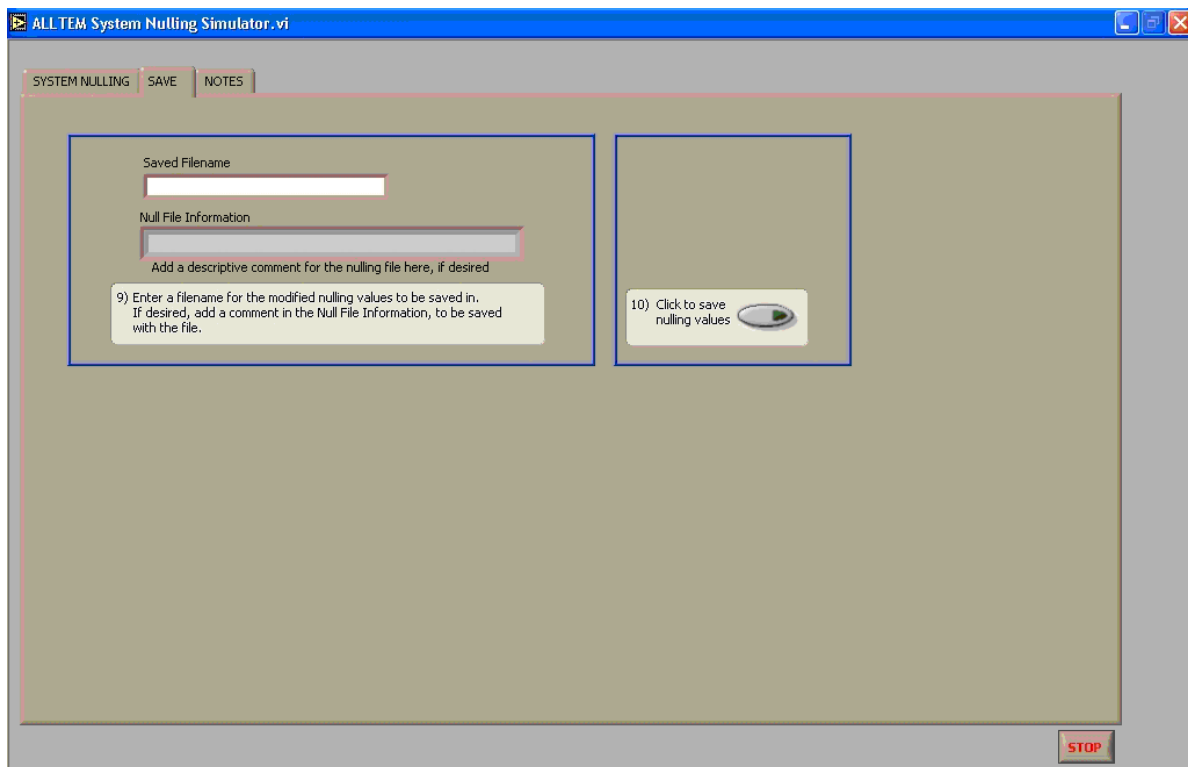

Figure 4.6. The SAVE tab with instructions.
Step 8: When all combinations have been nulled, go to the **SAVE** tab (Figure 4.6).